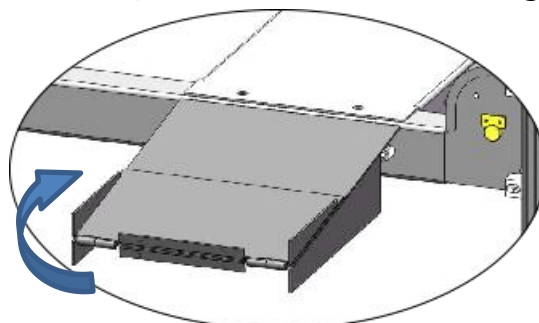

Fig. 31
O. Install Rear folding drive-in ramp (See Fig. 31)